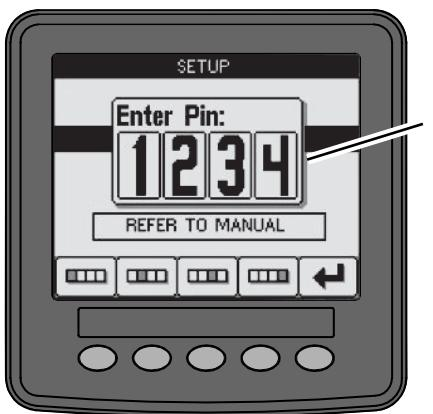

Figure 15
1. In the Setup mode, press any button to access the pop-up menu bar at the bottom of the screen (Figure 15).
3. Enter the PIN number (Figure 15) and select the ENTER icon .
3. Enter the PIN number (Figure 15) and select the RETURN icon.